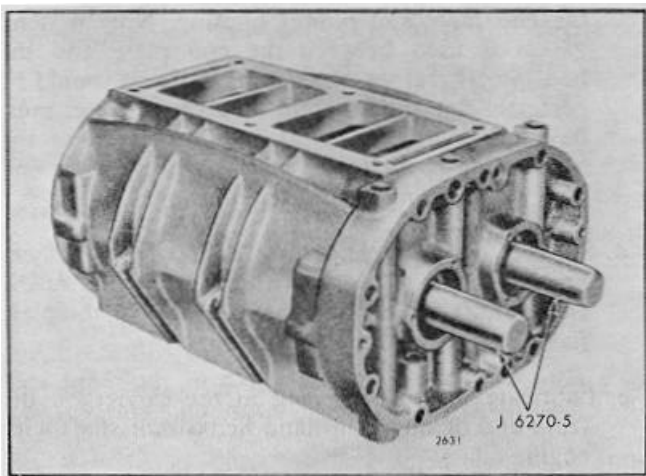

FIG. 17 - Assembling Blower Rotors in Housing and Front End Plate with Oil Seal Pilots
2. Refer to Fig. 17 and install the blower rotors in the blower housing and end plate as follows: